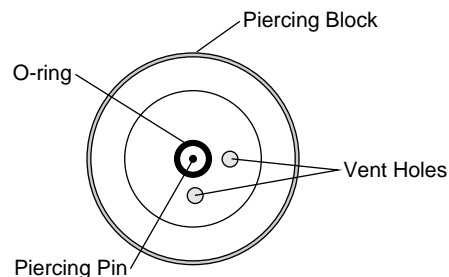

Figure 3. Location of O-ring in piercing block.
4. Place a new O-ring in the groove in the piercing block (Figure 3). Use your finger to press the O-ring into the groove. If the O-ring is not in place when the CO₂ cartridge is pierced, the gas will rapidly vent out of the hole on the underside of the mounting block.